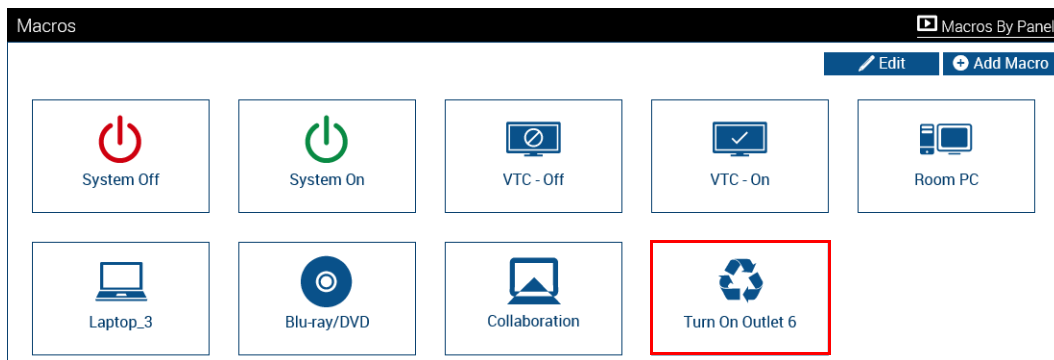

FIG. 66 Macros page - Example (Turn On Outlet 6) macro item added
- Click **Save** to save the macro and return to the main *Macros* page. Note that the new macro is now indicated in the *Macros* window (FIG. 66):